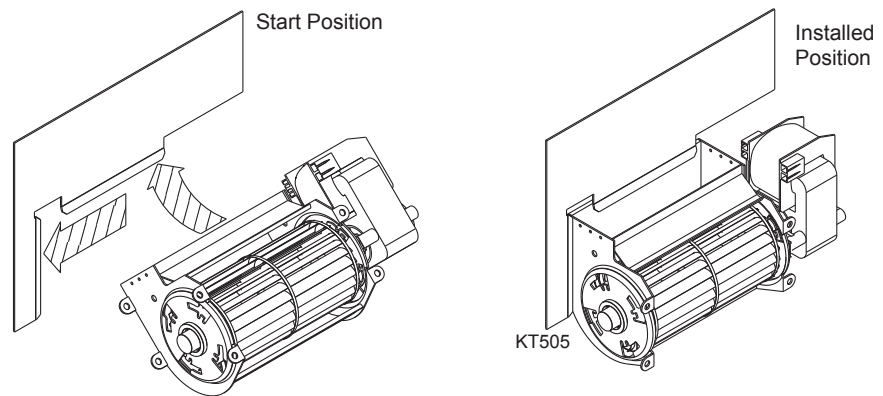

**Figure 47 -
9. The blowers are to be inserted flat through the engine cutout in the firebox floor. Slide each blower over to the sidewall location. *Figure 47*